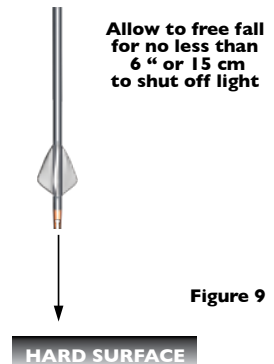

Figure 9
- d. Drop the arrow allowing the arrow to hit the surface nock first via gravitational force. (Figure 9)